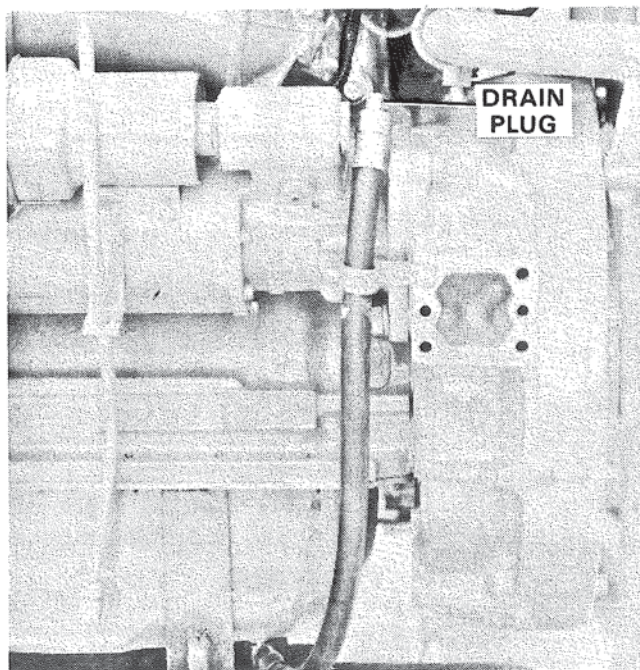

Figure 32. Changing Engine Oil.
3. Remove plug from drain hose. Figure 32.